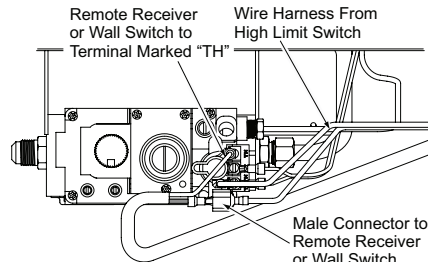

Figure 14 - Connecting Remote Receiver or Wall Switch to the Gas Control Valve
- Connect one terminal of 15 foot wire from wall switch to male connector on high limit harness. Connect remaining wire terminal to TH terminal on valve. Make sure that wire terminals are in positions on unit as pictured in Figure 14. If wires are not connected as shown switch will not work.
- Connect one wire from receiver to male connector on high limit harness and one to "TH" on control valve (see Figure 14).